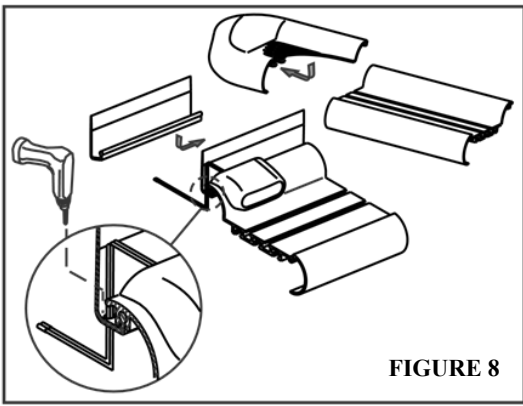

FIGURE 8
4. For Sure-Grip Running Boards, slide closure strip as shown. Set lights (if purchased) in appropriate location. Attach to Sure-Grip Running Board as shown. **See Figure 1.** Drill hole through plastic strip and run wires as shown. **See Figure 8.**